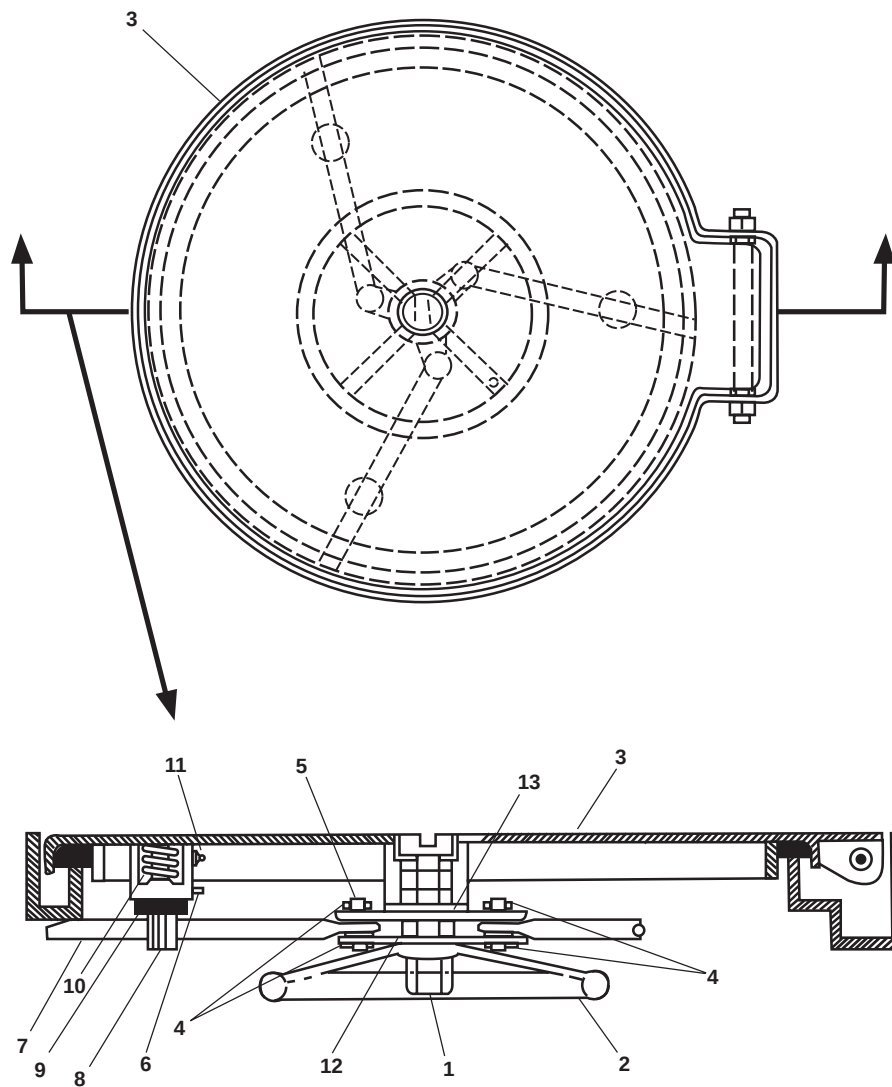

Figure 1. Repair Watertight Scuttle
1. Remove the two self-locking nuts (figure 1, item 1) and handwheel (figure 1, item 2) from the scuttle (figure 1, item 3). Discard the self-locking nuts.
2. Remove all six cotter pins (figure 1, item 4) from the cylindrical pins (figure 1, item 5), then remove the cylindrical pins. Discard the cotter pins.
3. Loosen the setscrews (figure 1, item 6) and remove the dog arms (figure 1, item 7) and guides (figure 1, item 8) from the scuttle.
4. Remove the hex steel adjusters (figure 1, item 9) and springs (figure 1, item 10).
5. Remove the grease fittings (figure 1, item 11).
6. Remove the spider (figure 1, item 12) and shim (figure 1, item 13) from the scuttle.
1. Install the shim (figure 1, item 13) and the spider (figure 1, item 12).
2. Place the springs (figure 1, item 10) and hex steel adjusters (figure 1, item 9) in position.
3. Install the grease fitting (figure 1, item 11).
4. Install the guides (figure 1, item 8) with dog arms (figure 1, item 7) and tighten the setscrews (figure 1, item 6).
5. Install the cylindrical pins (figure 1, item 5) in the dog arms.
6. Secure the cylindrical pins using six new cotter pins (figure 1, item 4).
7. Install the handwheel (figure 1, item 2) and secure it with two new self-locking nuts (figure 1, item 1).